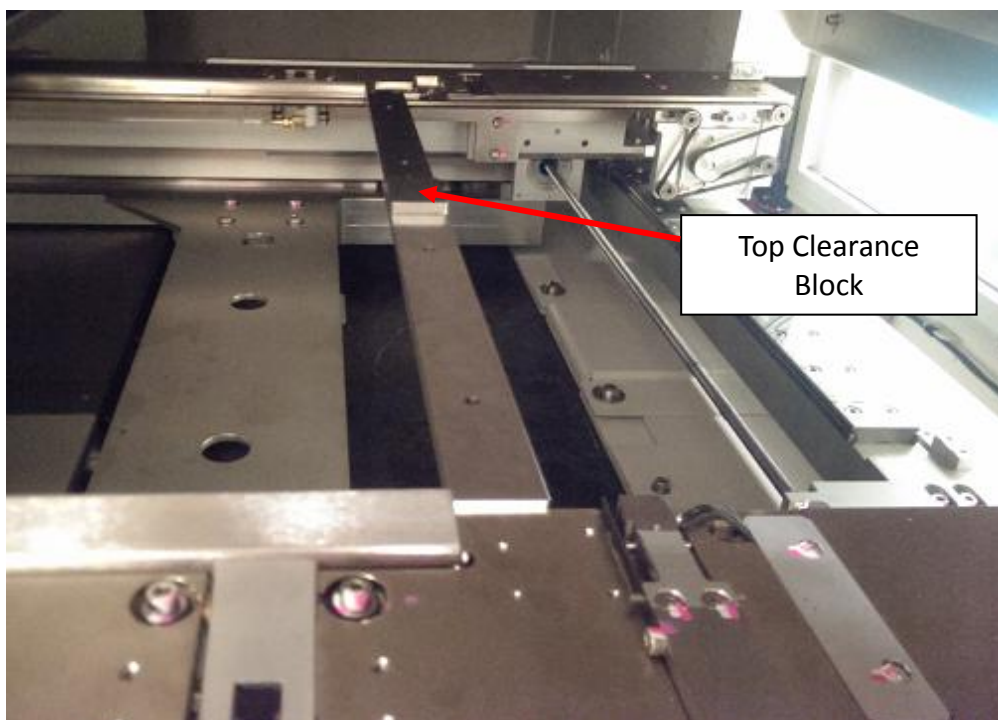

Figure 25 High Mag Clearance Checking
33. Place the Ver Mag Jig (4XASS-A377) on the rail stage with Top Clearance Block face top as Figure 25.